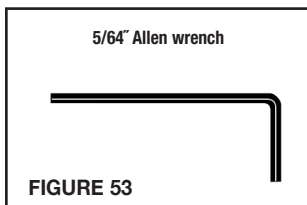

FIGURE 53
- A trigger adjustment wrench is provided with the T/C® Performance Center® LRR™ rifle (FIGURE 53).